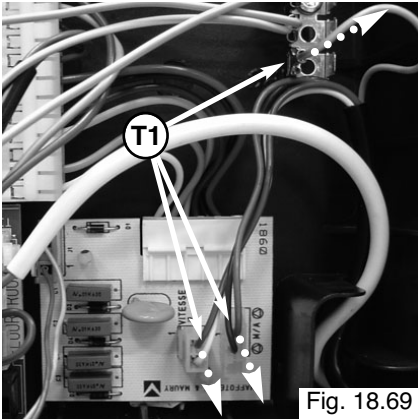

Fig. 18.69
3. Remove the pump plug from the control board and earth plug from earth socket "T1" (see Fig. 18.69);